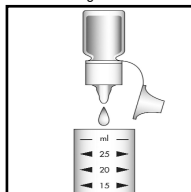

Figure 2
2. Add 4 drops of A-6804 Stabilizer Solution. Fig. 2
3. Add 4 drops of A-6805 Catalyzer Solution (green). Fig. 2